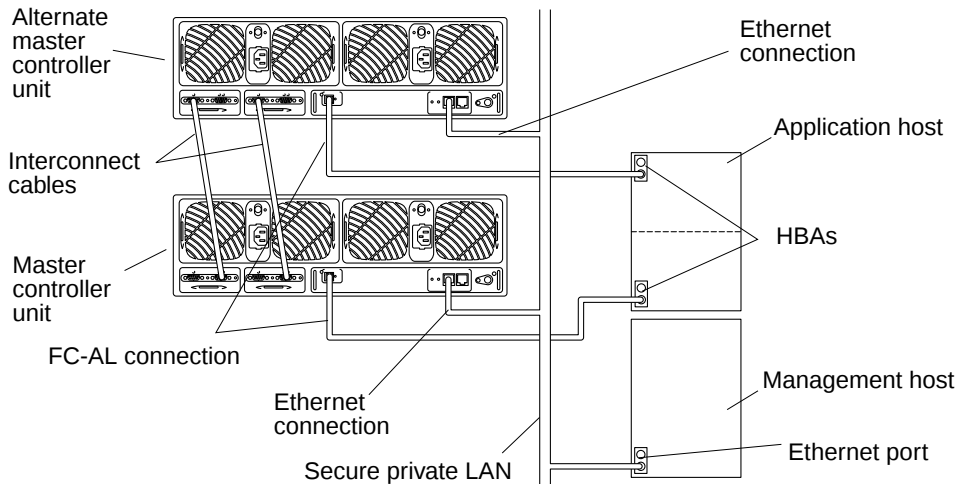

FIGURE 3-6 Single Host With Two Controller Units Configured as a Partner Group
5. **If configured as an enterprise configuration, disconnect the interconnect cables from the alternate master controller. See FIGURE 3-6.**